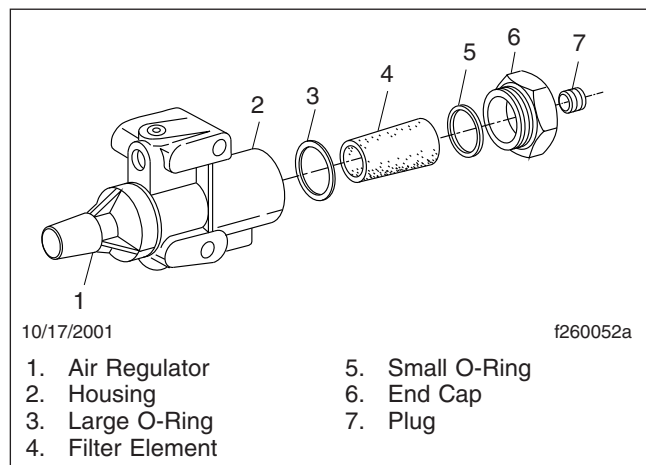

Fig. 4, Eaton Fuller Transmission Air Filter/Regulator Components
3. Remove the end cap, large O-ring, and filter element from the filter housing. See Fig. 4. Remove the small O-ring from the end cap.